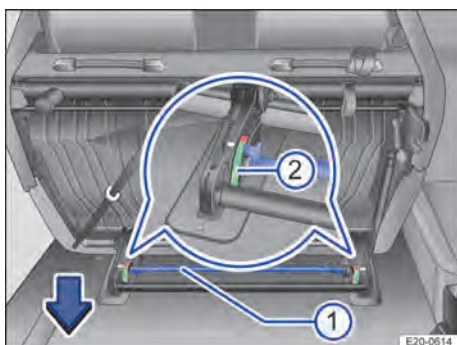

Fig. 71 Second row of seats: Installing the two-seat bench.
2. Press the rods → Fig. 71 ① downwards in the direction of the arrow until both locking marks ② are in the green area.